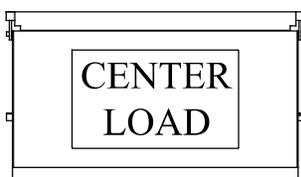

Figure 7: Step 11.
Step 11. To load and use the liftgate, center the load on the platform side to side and front to back (Figure 7). Put heavier loads as close to the front of the platform as possible (near truck). Platform cart stops may be actuated at this time, if equipped.